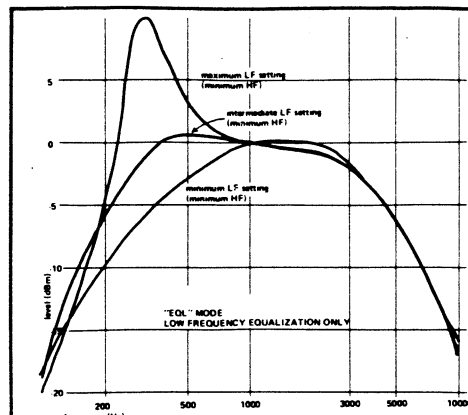

figure 4. Typical LF curves, EQL mode
*eql* (high frequency). With the *LF eql* and *HF eql* controls adjusted to minimum settings, low-end roll-off begins at approximately 600 Hz and high-end response is depressed about 1dB at 3000 Hz, with 12dBper-octave roll-off above that frequency. At moderate settings of the *LF eql* and *HF eql* controls, bumps begin to occur at approximately 300 and 3200 Hz. High-frequency and low-frequency adjustments generally do not interact. Figures 4, 5, and 6 show typical response curves for low-frequency, high-frequency, and combined high and low-frequency equalizer settings in the *EQL* mode.